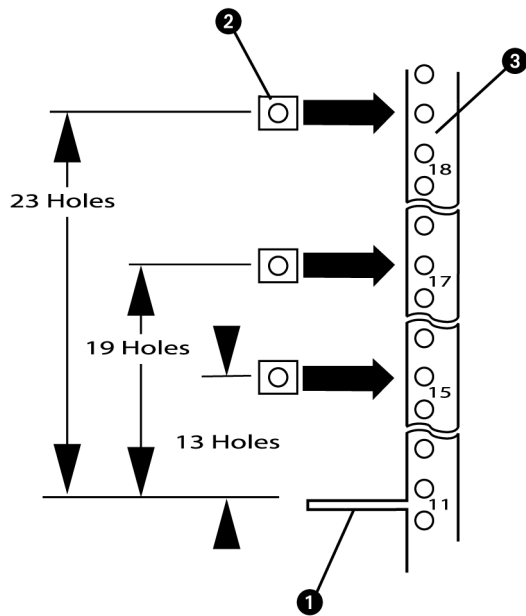

Figure 21 Preparing the front rack columns
1. Prepare the front rack columns (Figure 21):
- a. Standing at the front of the rack, count up from the top of the rail tray (❶) to the 13th, 19th, and 23rd holes on the rack's front face.
- b. Slide a sheet metal nut (❷) on each of the located holes.
**NOTE:** Three sheet metal nuts should be on each front column face (③).